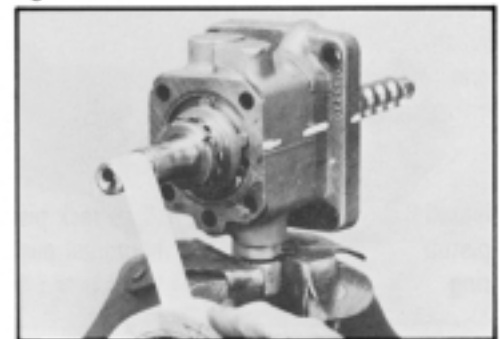

Figure 119
17. Tape the worm shaft (23) serrations and lightly coat the remaining portion of the worm shaft with oil. SEE FIGURE 119.